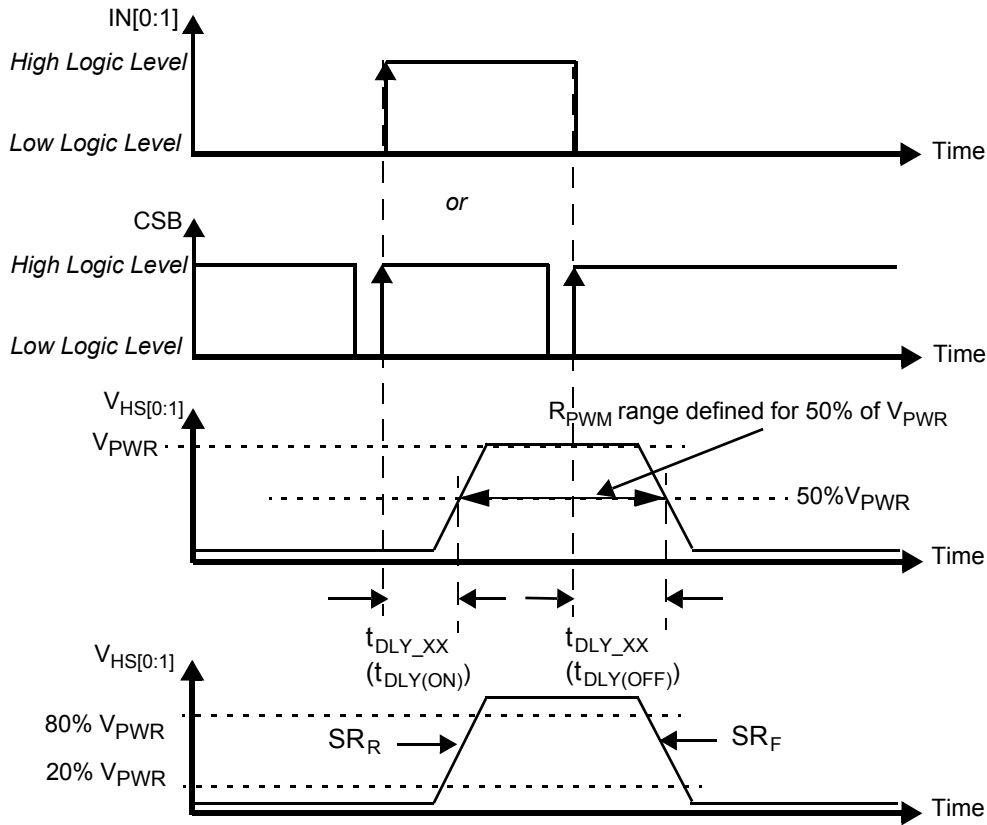
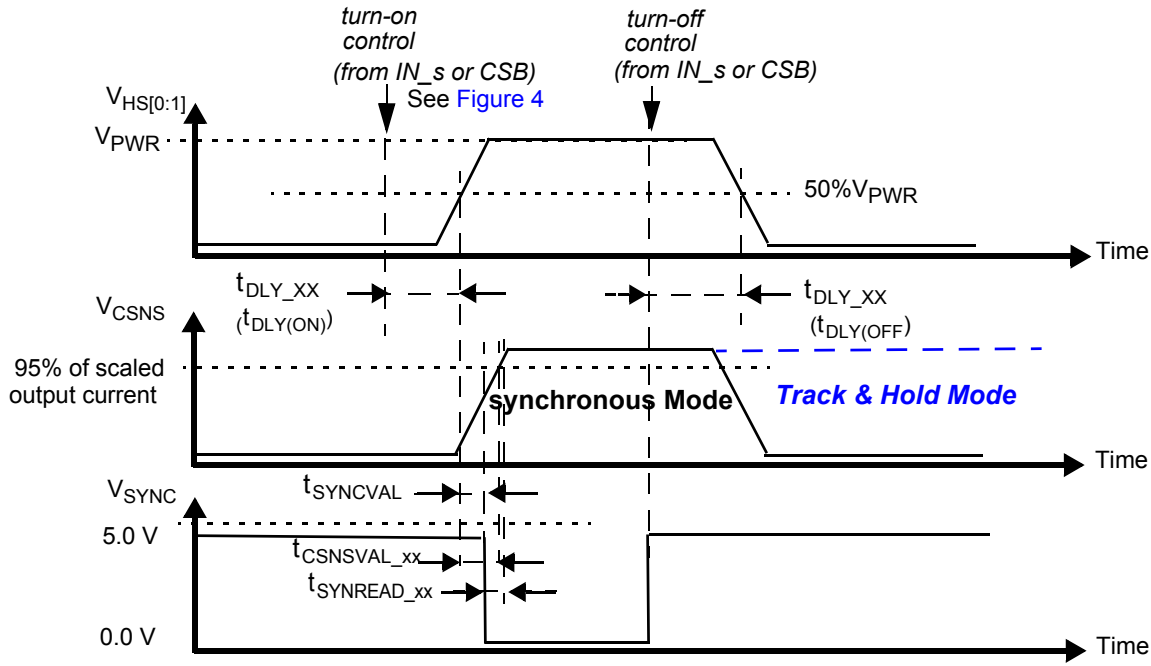

Figure 4. Output Voltage Slew Rate and Delay
Figure 9. Synchronous & Track-and-Hold Current Sensing Modes: Associated Delay & Settling Times
28. Rising and Falling edge slew rates specified for a 20% to 80% voltage variation on a 10.0 Ω resistive load (see Figure 4).
30. Time required to switch off the channel after detection of overtemperature (OT), overcurrent (OC), SC or UV error (time measured between start of the negative edge on the FSB pin and the falling edge on the output voltage until $V(\text{HS}[0:1]) = 50\%$ of V_{PWR}).
31. Settling time (= $t_{CSNSVAL_XX}$), SYNC output signal delay (= $t_{SYNCVAL_XX}$) and Read-out delay (= $t_{SYNREAD_XX}$) are defined for a stepped load current using a 10 Ω resistive load for $\text{CSNS_RATIO_s} = 0$. (see Figure 9 and Output Current Monitoring \(CSNS\)).
To synchronize current sensing with an external process, the SYNC signal can be connected to a digital input of an external MCU. SYNC is asserted logic low when the current sense signal is accurate and ready to be read. The current sense signal on the CSNS pin has the specified accuracy $t_{SYNREAD_XX}$ seconds after the falling edge on the SYNC pin (Figure 9) and remains valid until a rising edge is generated. The rising edge that is generated by the SYNC pin at the turn-OFF instant (internal or external) may also be used to implement synchronization with the external MCU. Parameter t_{SYNVAL_XX} is defined as the time between the instant at the middle of the output-voltage rising edge ($HS[0:1] = 50\%$ of V_{PWR}), and the instant at which the voltage on the SYNC-pin drops below 0.4 V (V_{SOL}). The SYNC pins of different devices can be connected together to save micro-controller input channels. However, in this configuration, the CSNS function of only one device should be active at a time. Otherwise, the MCU does not determine the origin of the SYNC signal. The SYNC pin is open drain and requires an external pull-up resistor to V_{DD} .